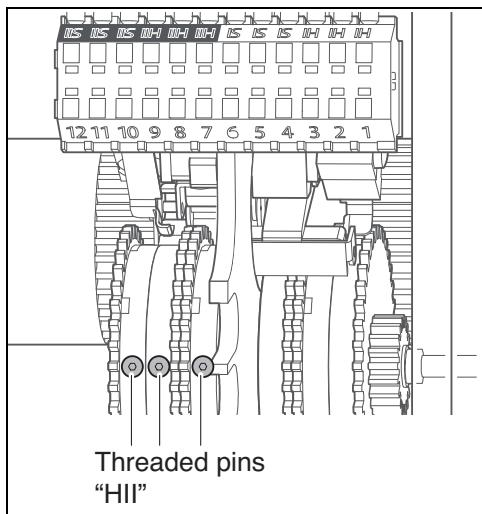

Fig. 14
- Tighten the 3 threaded pins of limit switch "HII" as previously described. See Fig. 14.